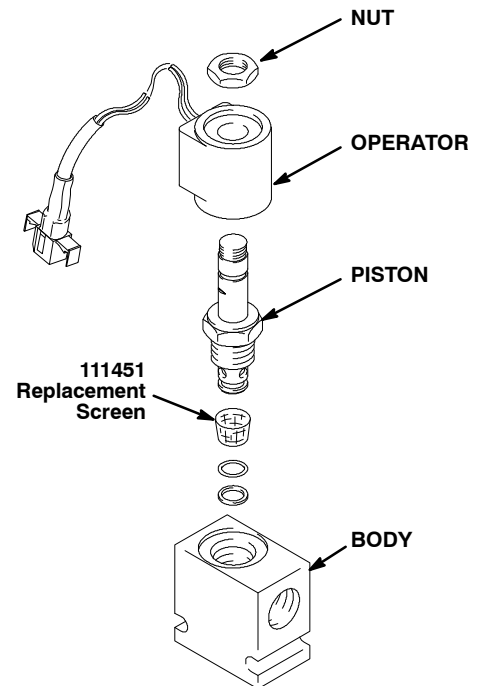

Fig. 9
3. Unscrew the nut, remove the operator, and unscrew the piston from the body. See Fig. 9.